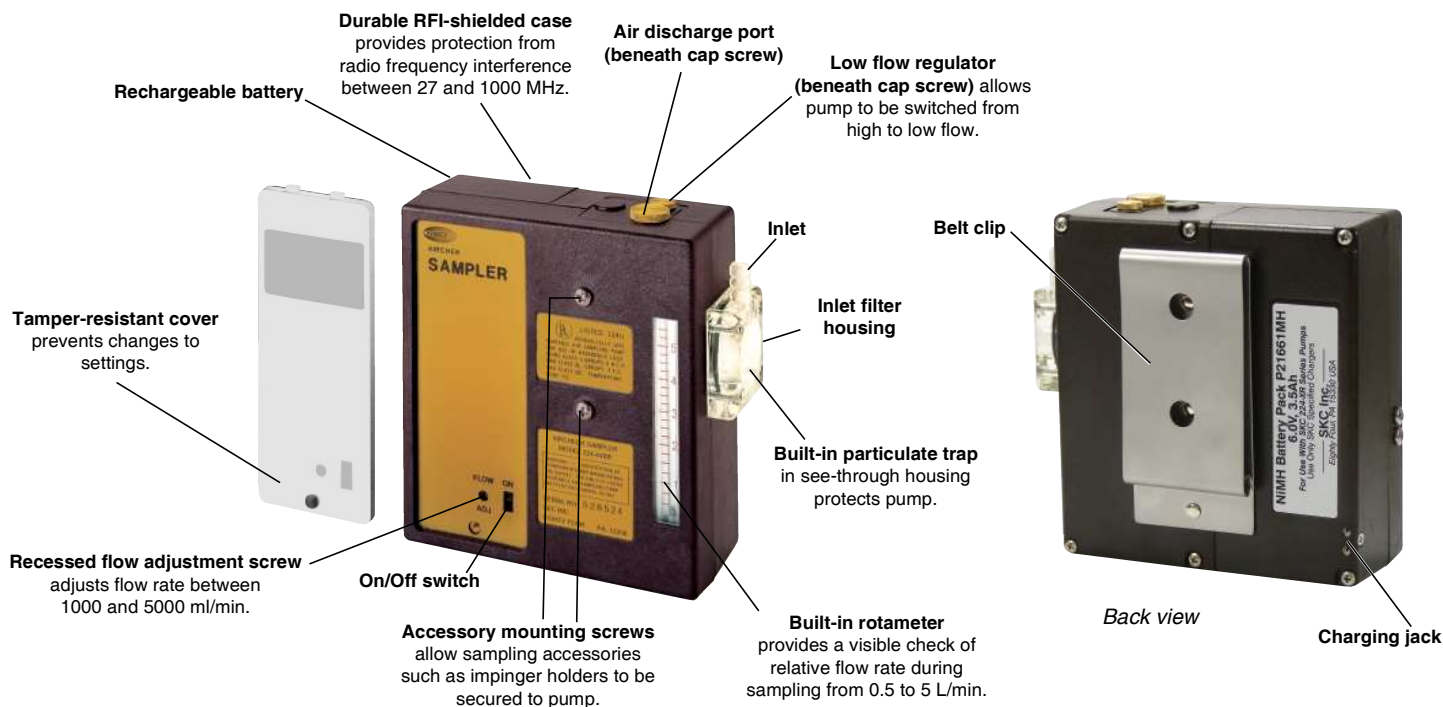

Figure 1. Front and back views of 44XR Universal Sample Pump
The 44XR Universal Sample Pump (Figure 1) is a constant flow (from 5 to 5000 ml/min) air sampler suitable for a broad range of applications. It is ideal for industrial hygiene studies as well as environmental testing.
3. Insert the charging plug end of the cable into the jack on the back of the pump's battery pack (Figure 1).
Turn Pump Power On/Off (Figure 1)
1. To ensure the pump is set for high flow, remove the cap screw (*Figure 1*) covering the regulator valve and turn the exposed screw **clockwise** until it stops. Do not overtighten. *See right.*
4. Set the flow rate using the flow adjustment screw (*Figure 1*) until the calibrator indicates the method-specified flow rate. Take a minimum of three readings and record the average flow rate, as per OSHA/NIOSH instructions.
- b. **When using impingers, an in-line trap (SKC Cat. No. 225-22 or 225-22-01) is required to prevent fumes from accidentally being drawn into the sampler.** Place the in-line trap between the pump and the impinger. Mount the impinger and trap to the face of the sampler using the accessory mounting screws (Figure 1) or place them in a holster at the worker's waist.
3. Start sampling by turning on the pump using the on/off switch (Figure 1). Record the start time.